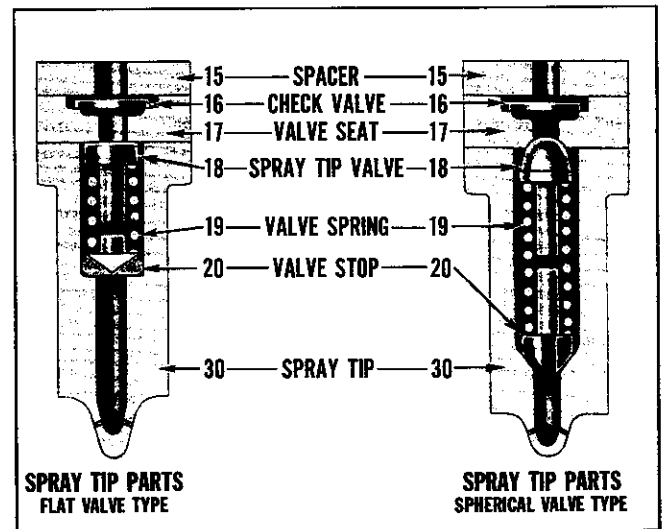

Fig. 7—Comparison of Spherical with Flat Valve in Spray Tip Assembly.
Early injectors were equipped with a spherical spray tip valve and valve stop as shown in Fig. 7; while late injectors, starting with those incorporating model identification color tag, have the flat type valve and valve stop. Spray tip assembly No. 5227324, which includes spray tip, valve seat, valve spring and flat spray tip valve and valve stop, is used to fill service requirements of early injectors; individual parts of tip assembly are available for late injectors.
4. Thoroughly wash and inspect the check valve and spacer for smooth, flat surfaces and the spray tip valve and valve stop for smoothness and chips. (See Fig. 7 for identification of parts.)